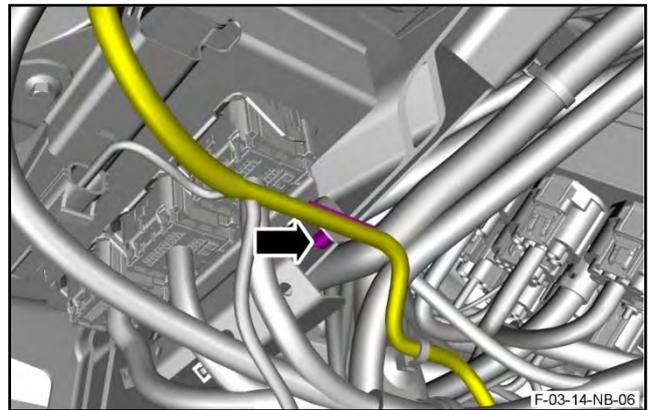

Figure 5
11. Release the forward harness from the fir-tree clip that attaches it to the body (refer to Figure 5).